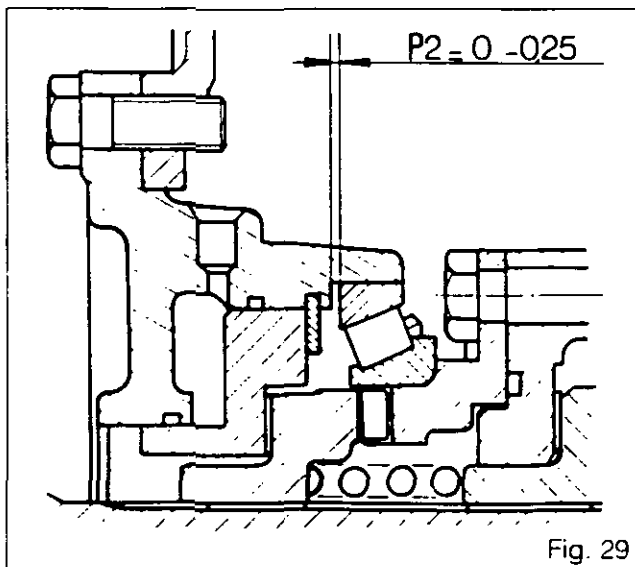

Fig. 29
97. Now determine shims P2 (Fig. 29) to obtain pre-load of : **zero to +0.25**